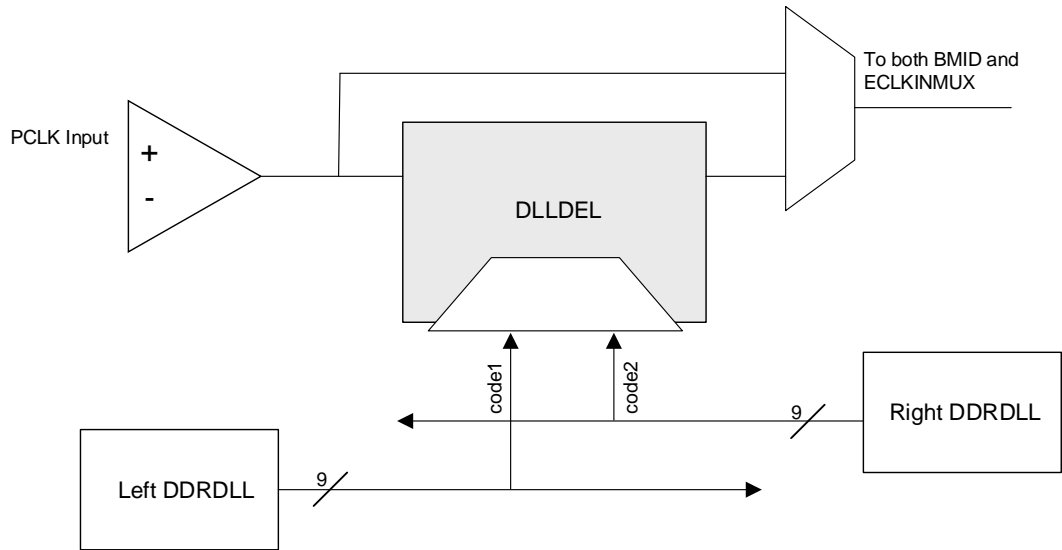

Figure 2.10. DLLDEL Functional Diagram
- The value is also sent to another slave DLL, DLLDEL, that takes a primary clock input and generates a 90-degree shifted clock output to drive the clocking structure. This is useful in an edge-aligned Generic DDR interface, where 90-degree clocking needs to be created. Not all primary clock inputs have associated DLLDEL control. Figure 2.10 shows DDRDLL connectivity to a DLLDEL block (connectivity to DQSBUF blocks is similar).